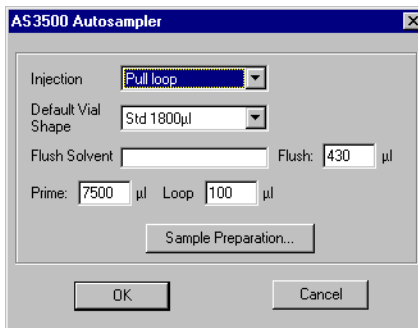

Figure 4-23 AS 3500 Autosampler Dialog Box
The AS 3500 dialog box is displayed (Figure 4-23).
1. Click the **Sample Preparation** button in the AS 3500 Autosampler dialog box (see Figure 4-23).